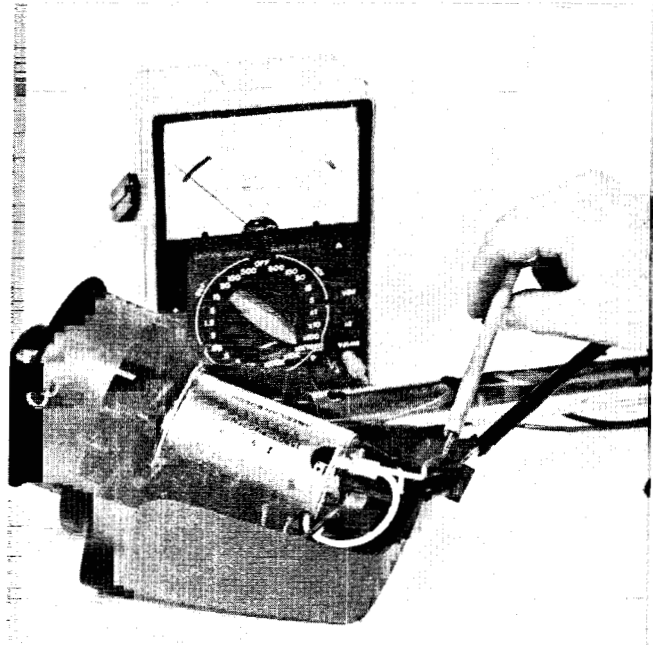

Figure 3.5a
3.5 TEST BRIDGE RECTIFIER (fig. 3.5a, 3.5b)